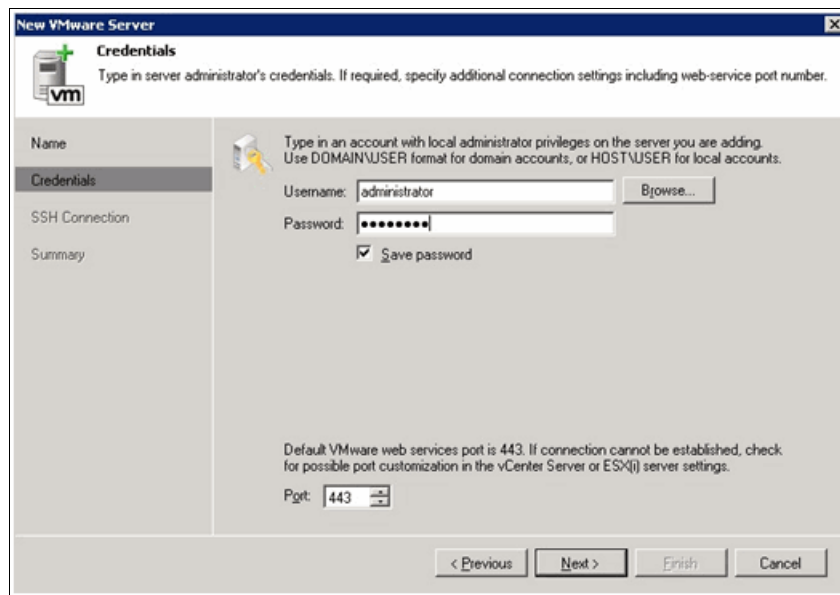

Figure 19-3 Adding VMware server
6. Enter a user account with local administrator privileges on the server you are adding, as shown in Figure 19-3.